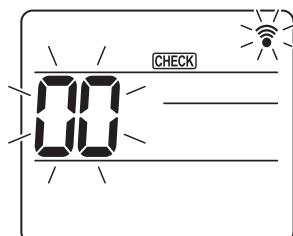
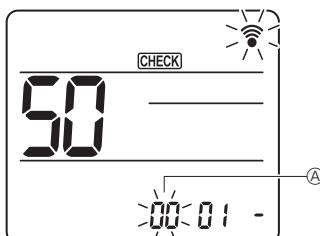
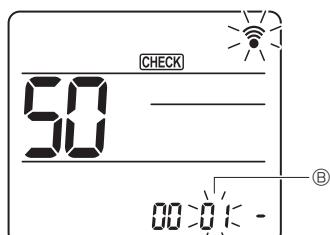
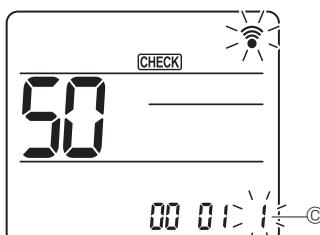

Fig. 7-16
Fig. 7-17
Fig. 7-18
Fig. 7-19
7.4.2. By wireless remote controller (Fig. 7-16, Fig. 7-17, Fig. 7-18, Fig. 7-19)
① Going to the function select mode
(Start this operation from the status of remote controller display turned off.) [CHECK] is lighted and "00" blinks. (Fig. 7-16)
② Setting the unit number
Press the **[▼]** button to set unit number ①. (Fig. 7-17)
③ Select a mode
Press the **[▼]** button to set Mode number ②. (Fig. 7-18)
④ Selecting the setting number
Use the **[▼]** button to change the Setting number ③. (Fig. 7-19)